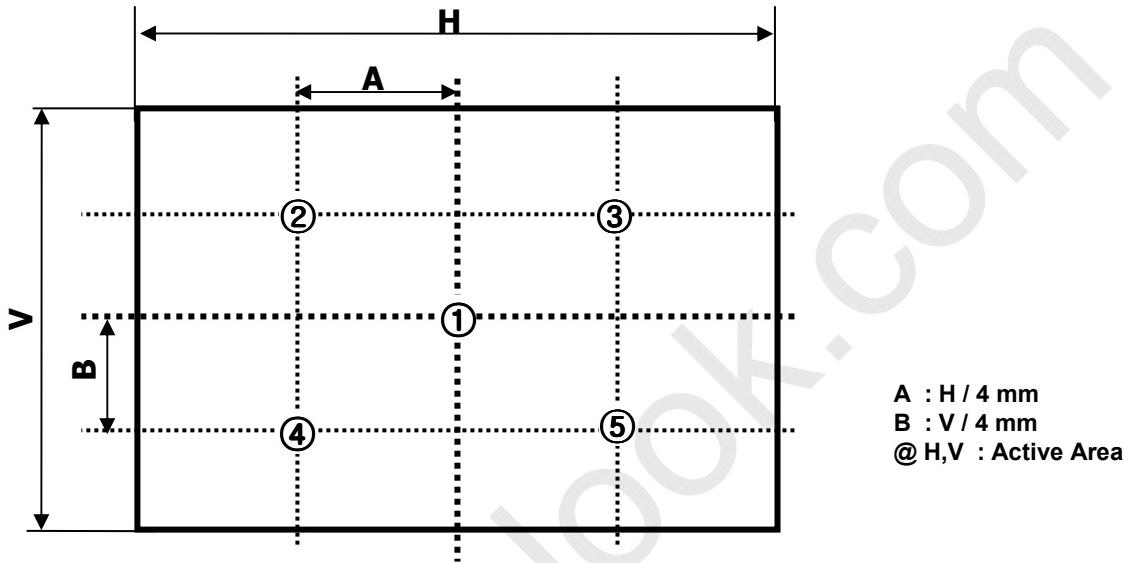

FIG. 2 5 Points for Luminance Measure
$n$  = the Position number(1, 2, 3, 4, 5). For more information, see FIG 2.
2. Surface luminance are determined after the unit has been 'ON' and 60min after lighting the backlight in a dark environment at  $25 \pm 2^\circ\text{C}$ . Surface luminance is the luminance value at center 1-point across the LCD surface 50cm from the surface with all pixels displaying white. For more information see the FIG. 2.
For more information, see the FIG. 2.